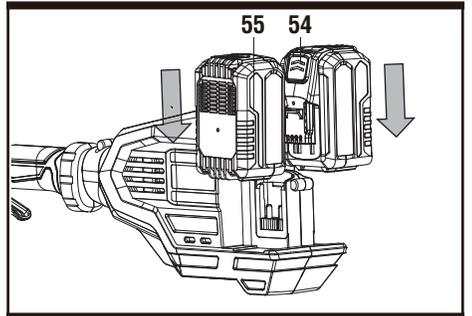

Fig.L2
55.	Battery pack (See Fig. L2)